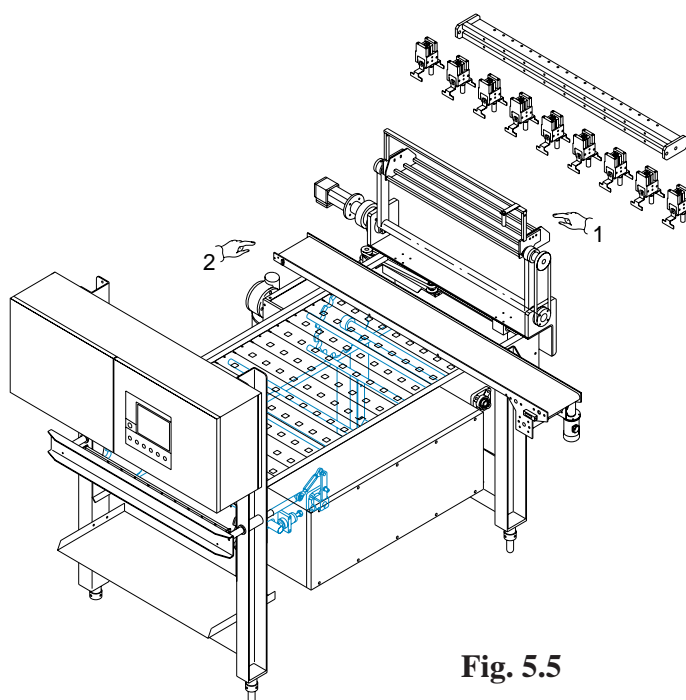

Fig. 5.5
- Replace the pick-up gripper holder support (*Pos. 1, Fig. 5.5*).
- Position the smooth belt for products without sticks (*Pos. 2, Fig. 5.5*) in the correct position on top of the pick-up machine.
- Connect the smooth belt (*Pos. 2, Fig. 5.5*) to the pick-up machine control panel.